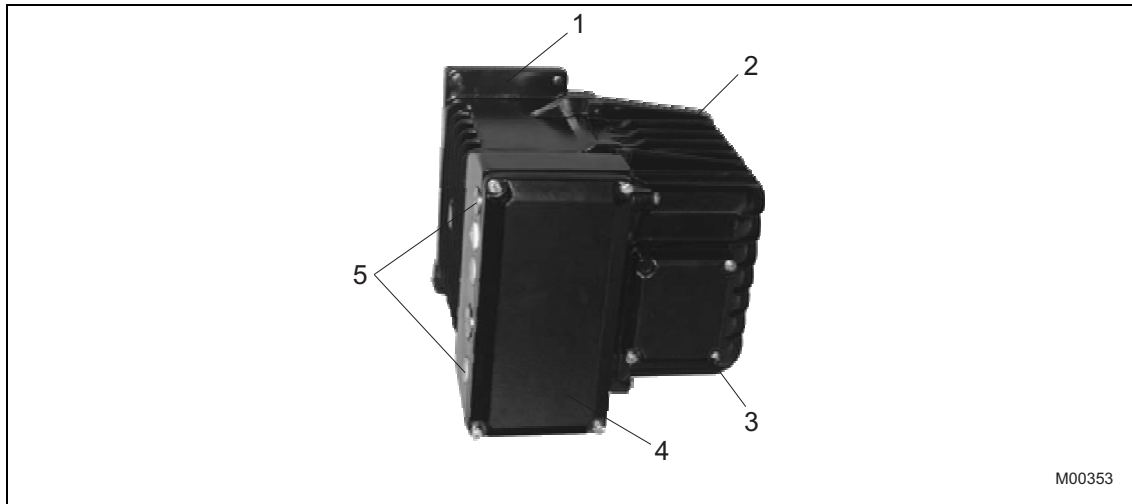

Fig. 5
4. Remove the cover for the connection chamber (**Fig. 5**, pos. 4).